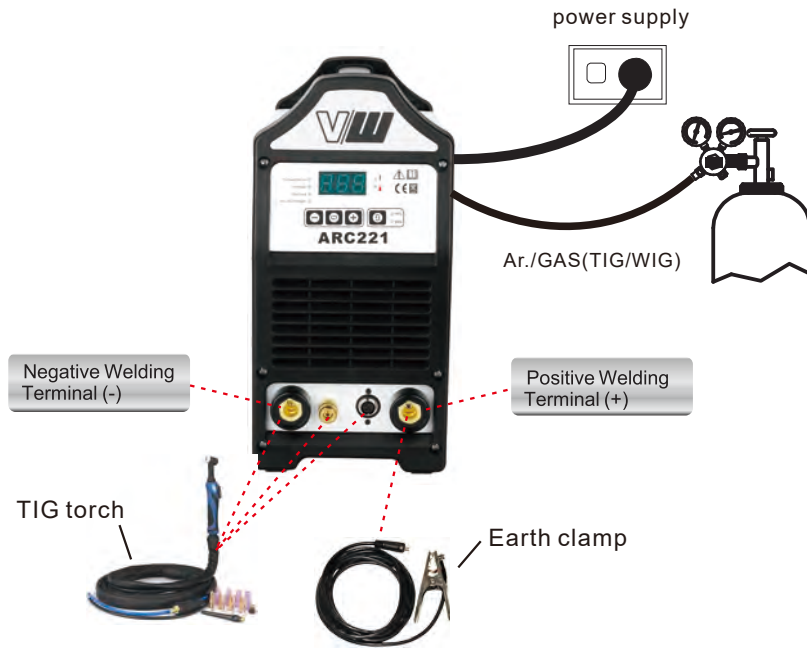

Figure:5-02
2. Connect the work earth clamp to the positive output terminal, and the LIFT TIG Torch cable to the negative output terminal. Refer to Figure 5-02.
3. Connect the gas line/hose to the proper shielding gas source and connect the aviation plug for trigger switch to 5 pin control socket Refer to Figure 5-02.